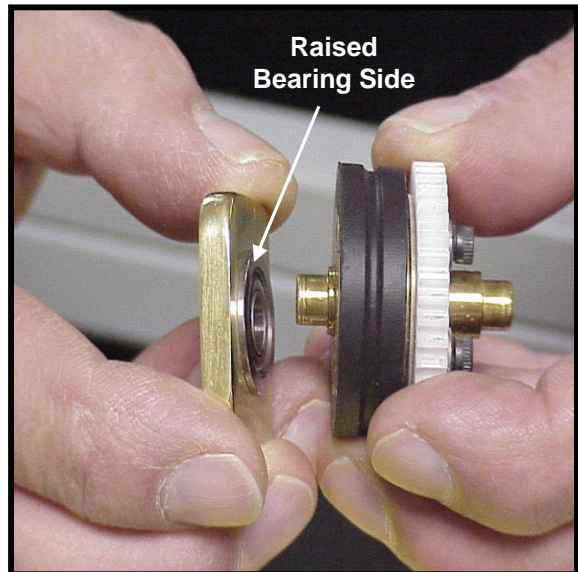

Figure 44
13.5.2.10 Slide the Drive Wheel-side Bearing Hanger back onto hub shaft with the raised Bearing pointing inward toward the Drive Wheel. See Fig. 44.